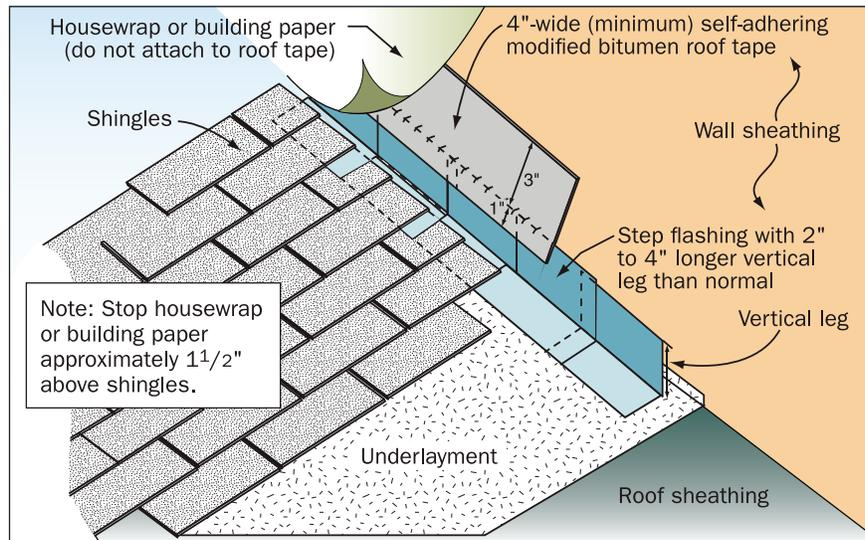

Figure 1. Roof/wall flashing detail.
- At roof-to-wall intersections (see Figure 1):